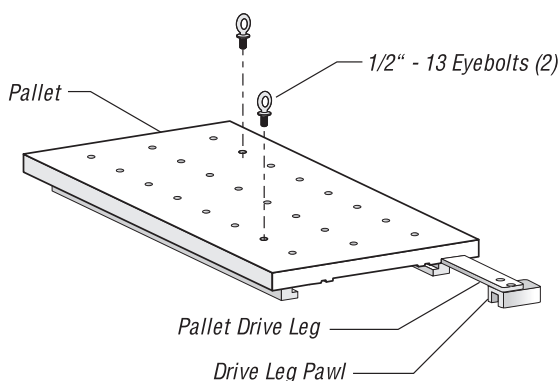
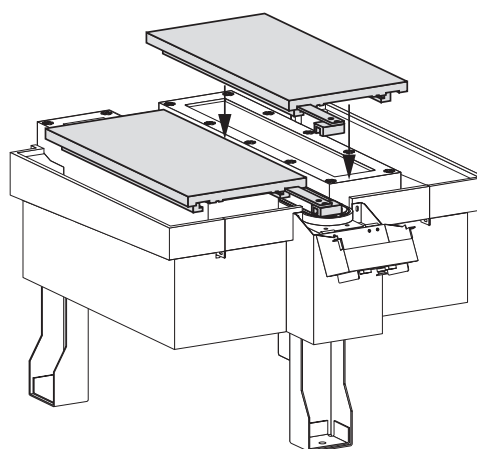

Figure 11.25 Lifting eyebolt locations.
Figure 11.26 Pallet placement.
18. Insert two 1/2"-13 eyebolts into each pallet (see Figure 11.25). Attach straps or chains to the eyebolts, and use a forklift or hoist to lift each of the pallets onto the APC. Ensure that each pallet is placed with its drive leg pawl under the APC operator's panel, and that the APC rollers fit into the grooves on the bottom of the pallets (see Figure 11.26).